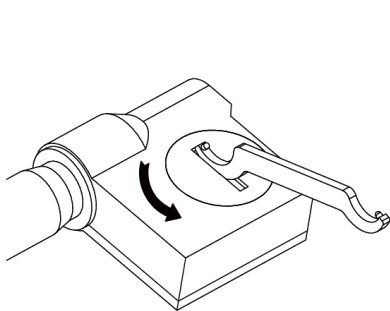

Fig. 1
- » Use the wrench to turn the battery cover counterclockwise (Fig. 1) and remove it.